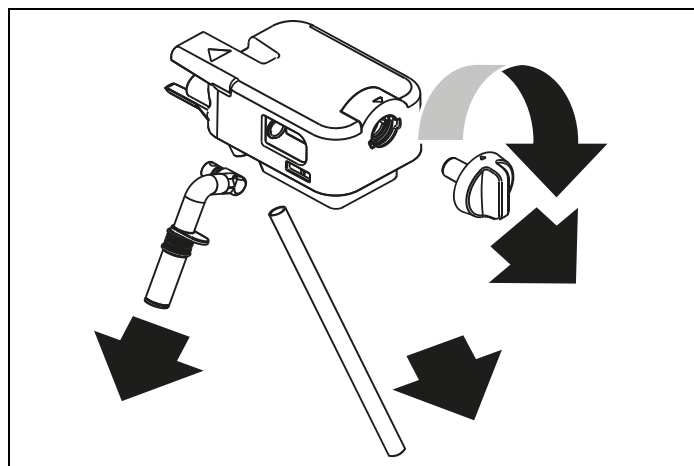

Fig. 52
- Turn the froth adjustment dial clockwise to the "INSERT" position (Fig. 52) and pull off.